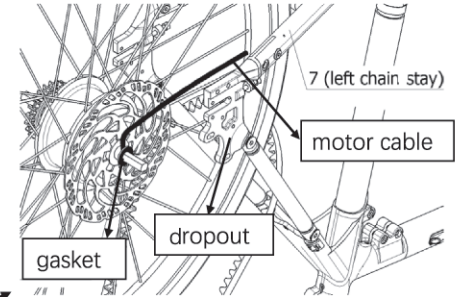
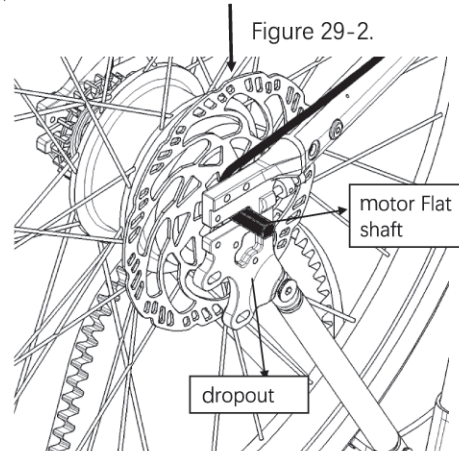

Figure 29-2.
Figure 29-3.
- The direction of the motor line of Part 17 is on the same side as Part 7, the opening position of the motor line is upward, and the gasket in the direction of the motor line needs to be on the inside of the dropout of Part 7, as shown in Figure 29-2. Observe the shaft of Part 17, place the motor flat shaft upward into the dropout of Part 7 and Part 8, and push it to the end of the dropout, as shown in Figure 29-3.